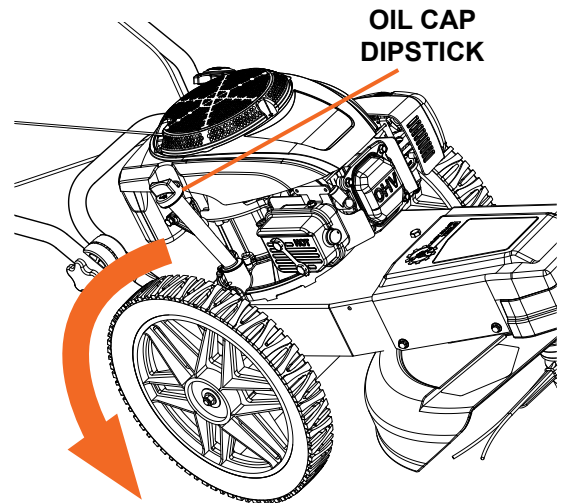

Figure 12
4. Using the handle of the trimmer/mower, tip the machine to drain the oil out through the oil filler tube into a suitable receptacle. (Figure 12).